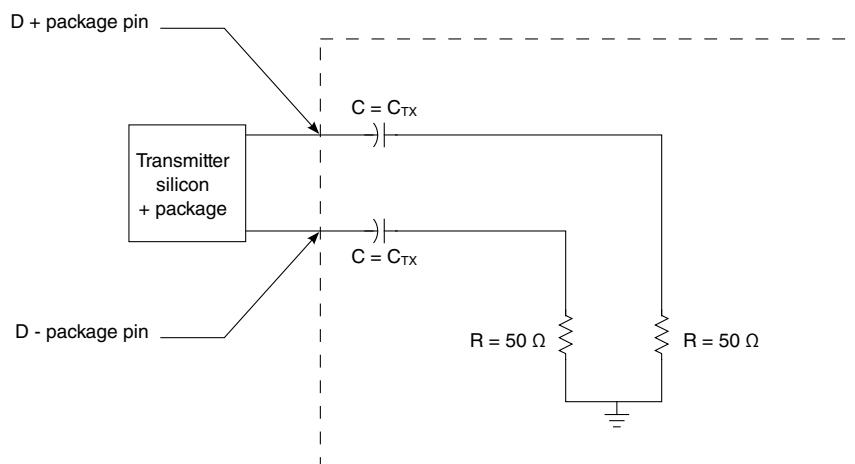

Figure 80. Test and measurement load
2. Specified at the measurement point into a timing and voltage test load as shown in Figure 80 and measured over any 250 consecutive transmitter UIs.
3. Specified at the measurement point and measured over any 250 consecutive UIs. The test load in Figure 80 must be used as the receiver device when taking measurements. If the clocks to the receiver and transmitter are not derived from the same reference clock, the transmitter UI recovered from 3500 consecutive UI must be used as a reference for the eye diagram.